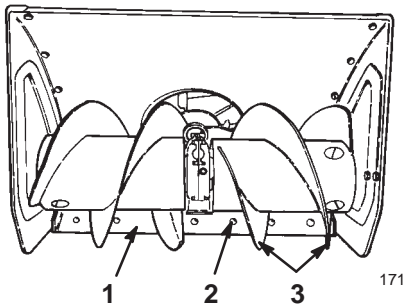

Figure 28
- Support the *auger blades* so that they are at least 1/8 inch (3 millimeters) off the ground (Fig. 28).
- To adjust the scraper, loosen the carriage bolts that secure the scraper to the auger housing (Fig. 28), level the scraper, and tighten the carriage bolts.